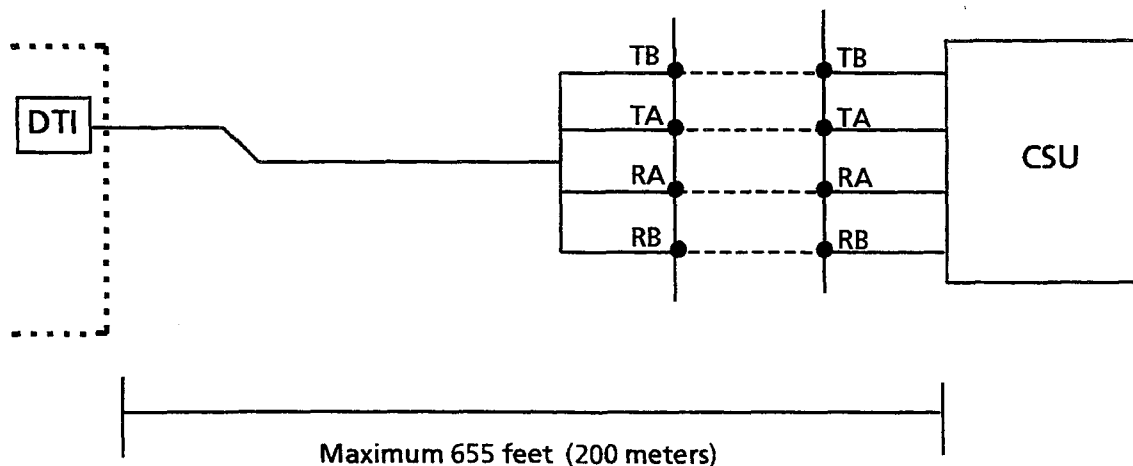

Figure 3-116 MDF Trunk Connection
1. Connect the T1/FT1 trunk to the MDF. Refer to Figure 3-116 - MDF Trunk Connection.
2. Connect this cable from the MDF to the DTI-F( )-10 KTU or DTI-F(A)-20 KTU by twisted-pair cable. Refer to Figure 3-116 - MDF Trunk Connection.